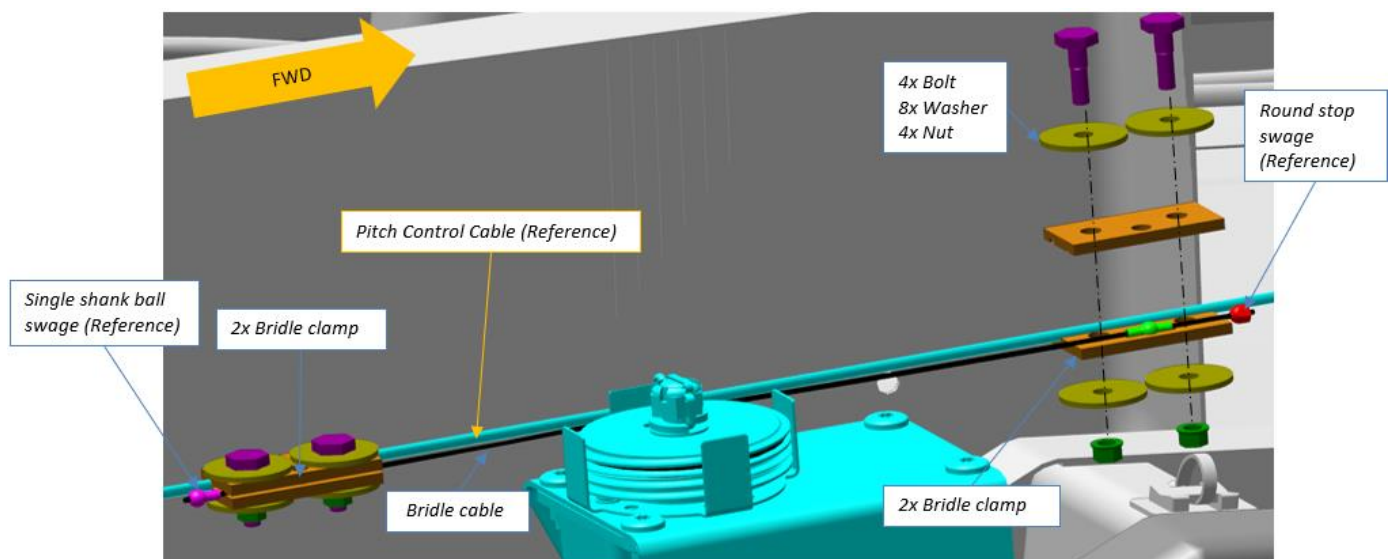

Figure 2: Remove bridle cable clamps.
7. Loosen and remove the screws, nuts, and washers that secure the bridle cable clamps to the upper pitch control cable. See **Figure 2**. Discard the clamp halves and the hardware.